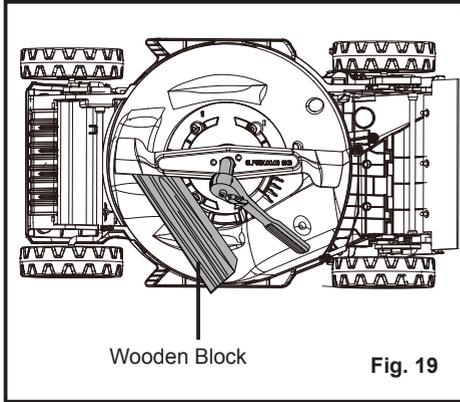

Fig. 19
5. Wedge a block of wood between the blade and the mower deck in order to prevent blade from turning while the blade nut is being removed (Fig. 19).